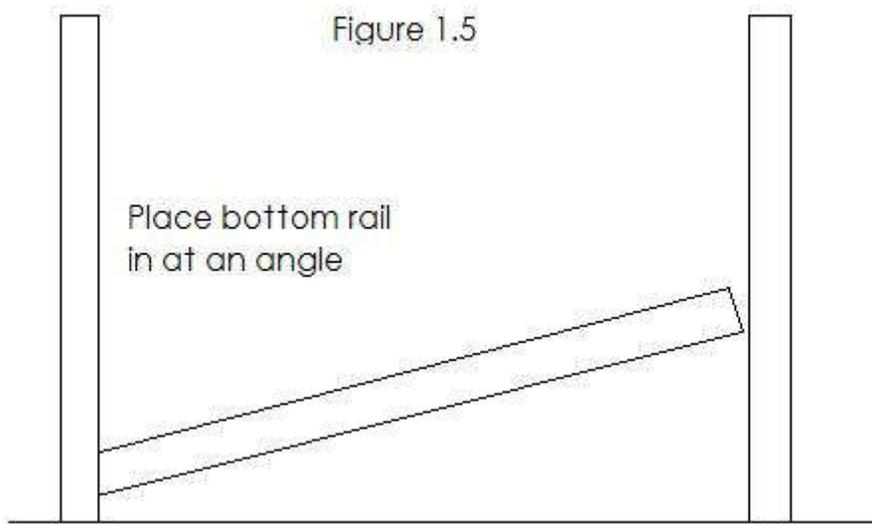

Figure 1.5
**Step 9.** Installing your fence sections is a relatively easy and rewarding step. Start by installing the bottom rail of each section. Measure the distance between the post and add 3” per section. This will allow each rail to be inserted into each post 1.5 inches. Take the rail and at an angle insert the rail into your first post. Allow the rail to go into the post and lower the rail and insert it into your next post. (Fig 1.5)